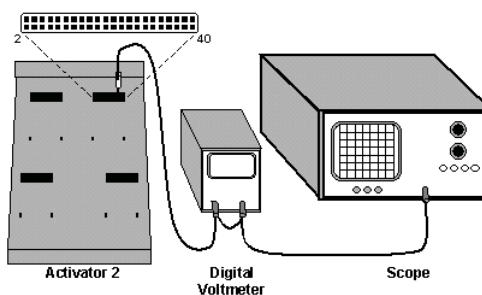

Figure 3-1 • Activator Testing Setup Diagram
4. Connect the ground wire to pin 14 or 16 of any Activator socket and to DVM ground and scope ground (Figure 3-1).